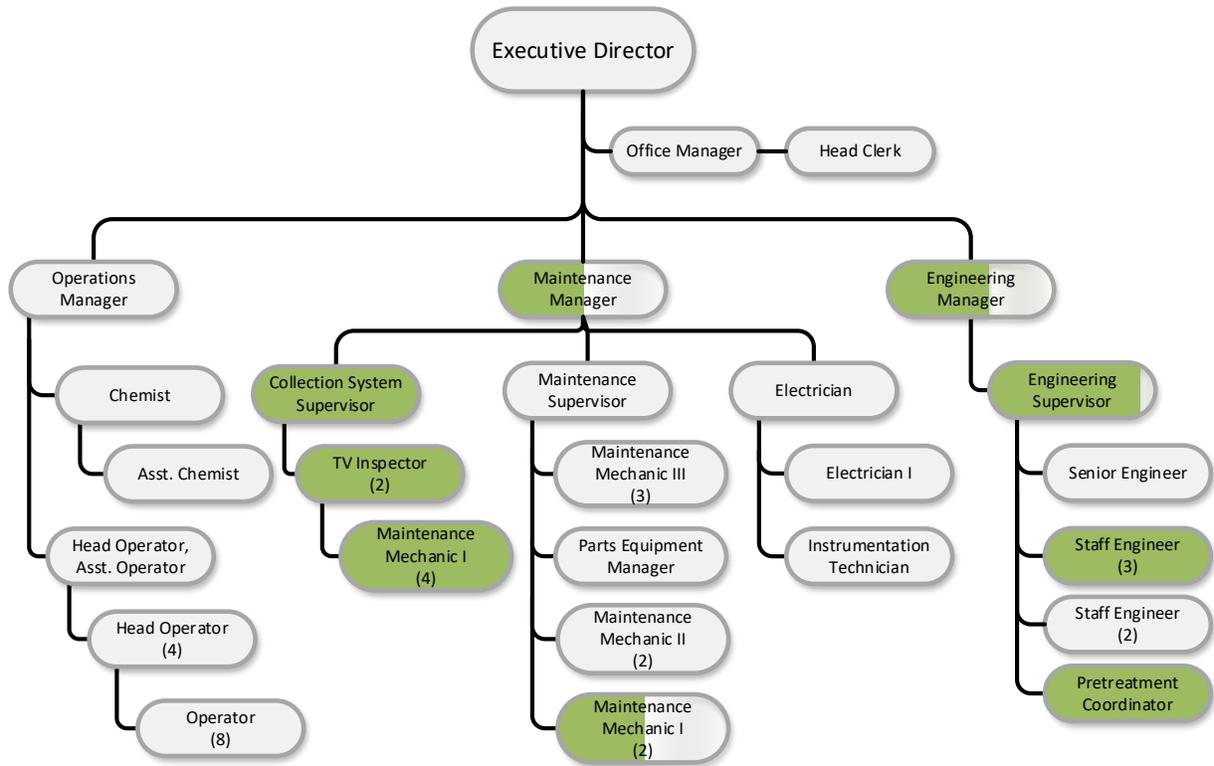

Figure 2. Lowell Wastewater Organizational Chart
- Figure 2. Lowell Wastewater Organizational Chart 7
An organizational chart depicting divisions and positions of all staff at the Utility is provided in Table 1 and Figure 2. Positions that have responsibilities related to collection systems operations are shown in green, with a gradient shading reflective of the percentage of time dedicated to the collection system. Staff not regularly assigned to the collection system still support efforts on as needed basis. The percentage indicated next to the position indicates the time dedicated to the collection system.